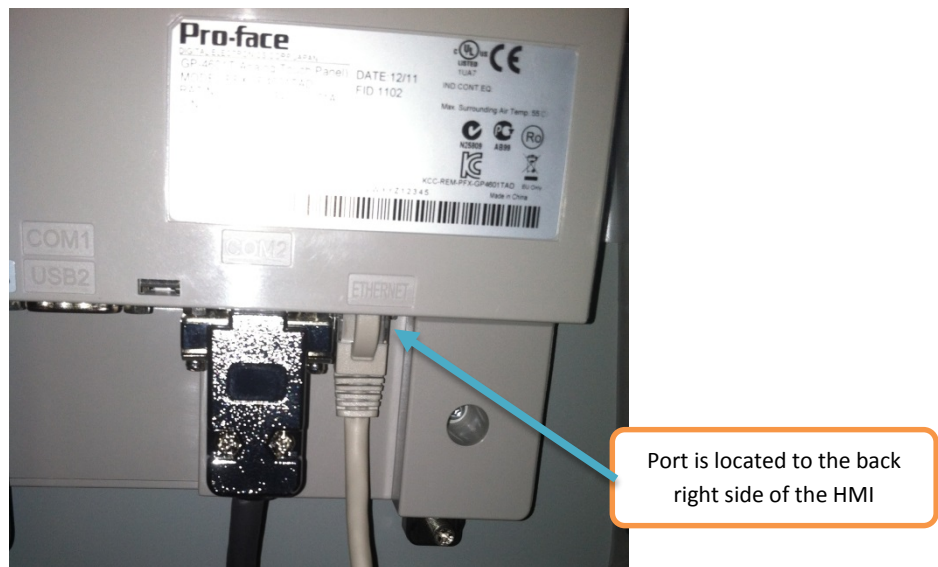

Figure 1: Connecting Ethernet Cable
1. Connect Ethernet cable to MYPRO Touch as shown in Figure 1.